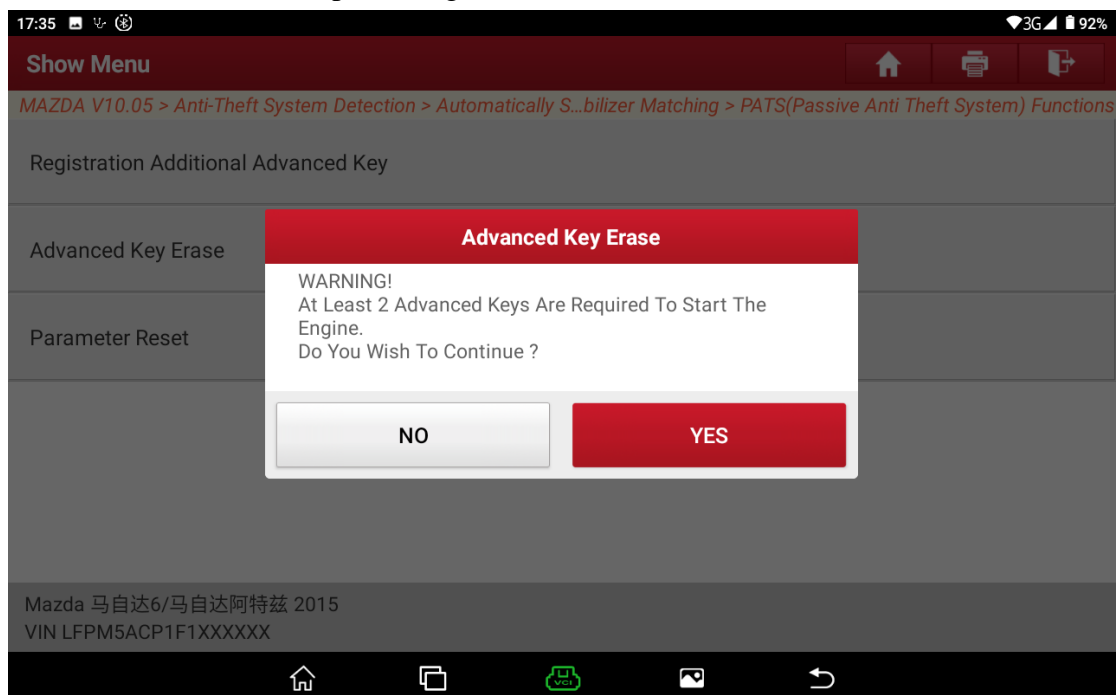

Figure 16
14. A warning prompt is displayed. Choose [No] to exit the function, or choose [Yes] to access the next step. See Figure 16.